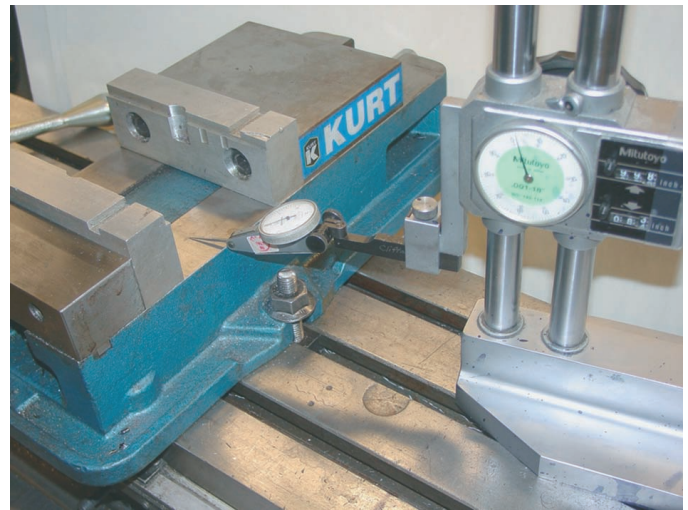
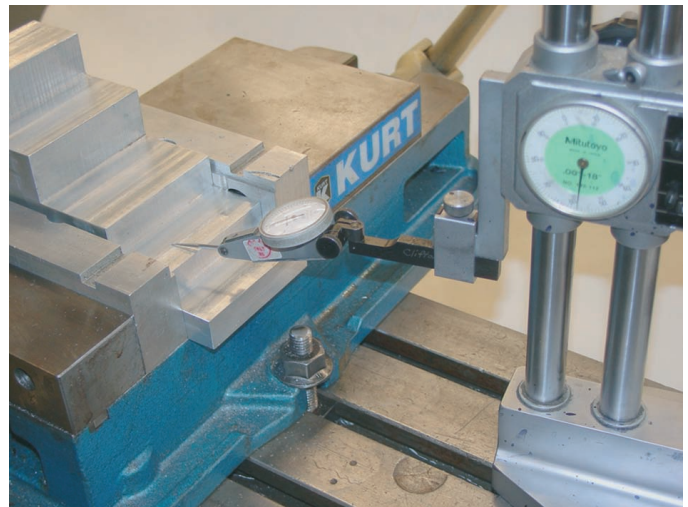

Figure 6-50 An indicator is mounted on this height gage.
Figure 6-51 The indicator could be used to measure the height of the part.
- Using an indicator (Fig. 6-50) as a more sensitive touch probe for improved accuracy—this superior process eliminates feel problems. In Fig. 6-51, the indicator is zeroed on the workpiece of Fig. 6-49. We'll study indicators next.
Compare the photographs in Figs. 6-51 or 6-55 to your height gage, if available. There will be differences depending on the kind: dial, vernier, or electronic.